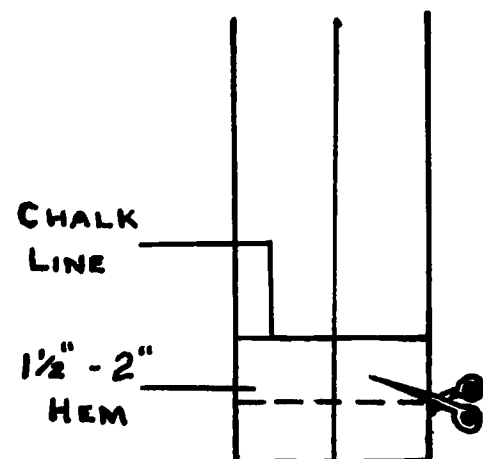

Figure 62.
3. Measure 1-1/2 to 2 inches down from the first line and mark with chalk. This measurement is the depth of the hem. Trim the fabric below this line (see Figure 62).